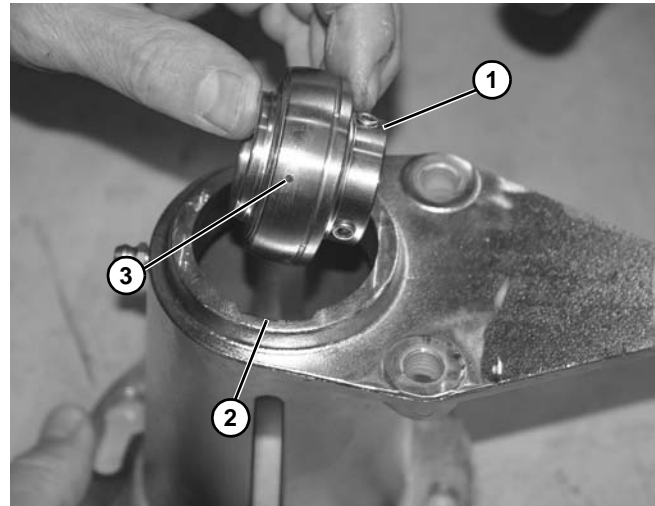

Figure 105
2. Turn bearing (**Figure 105, item 1**) to align with slots (**Figure 105, item 2**) and anti-rotation nub (**Figure 105, item 3**), as shown, in motor mount. Then remove bearing.